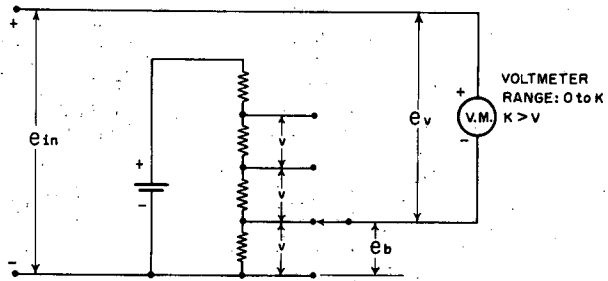

FIGURE 1
Consider the simple scale expansion circuit in Fig. 1. Here $e_{in} = e_b + e_v$, e_b is the "bucking potential" and e_v is the potential at the voltmeter terminals. If $e_b = nV$ (where n is any integer from zero to n inclusive), and if the voltmeter scale covers the range from zero to V , any e_{in} between zero and $(n + 1)V$ can be measured.
The circuit we use is shown in Fig. 2, in which $e_{in} = e_b \pm e_v$. When $e_b = 2nV$ (n as above) and the voltmeter scale covers the range from zero to V , any e_{in} between $-V$ and $(2n + 1)V$ can be measured. This circuit differs from the one shown in Fig. 1 in that: (1) for a given number of steps, twice the range is covered, and, more important, (2) with a slow voltmeter (such as a self-balancing potentiometer) the indication of e_{in} is interrupted only while the switches are moving from one position to another. (In the system of Fig. 1, the indication is interrupted while the voltmeter indicator moves from V to zero or from zero to V , when e_b is stepped.)
In Fig. 3, a curve (a) is repeated on narrow charts (b, c). The system of Fig. 1 results in a series of offset segments of the original curve (Fig. 3b). The Fig. 2 method folds the curve between the lines $e_v = 0$ and $e_v = V$ (Fig. 3c).
The circuit of Fig. 1 lends itself readily to automatic scale expansion. If the voltmeter is equipped with switches which operate at zero and at V, operation of the "V" switch indicates that e_{in} is increasing (de/dt is positive) and calls for $e_{b2} = e_{b1} + V$ (S-2 steps up). Operation of the "Zero" switch (indicating de/dt is negative) calls for $e_{b4} = e_{b3} - V$ (S-2 steps down). This method is being used successfully with a slowly varying input. A one hundred times scale expansion, recording resistance thermometer has been described by D. C. Stull¹. A. J. Williams of Leeds-Northrup Company has described a preliminary commercial model of the Stull instrument².
The circuit of Fig. 1 lends itself readily to automatic scale expansion. If the voltmeter is equipped with switches which operate at zero and at V , operation of the "V" switch indicates that e_{in} is increasing (de/dt is positive) and calls for $e_{b2} = e_{b1} + V$ (S-2 steps up). Operation of the "Zero" switch (indicating de/dt is negative) calls for $e_{b4} = e_{b3} - V$ (S-2 steps down). This method is being used successfully with a slowly varying input. A one hundred times scale expansion, recording resistance thermometer has been described by D. C. Stull¹. A. J. Williams of Leeds-Northrup Company has described a preliminary commercial model of the Stull instrument².